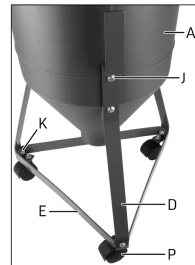

FIGURE 2.
1. Connect each leg (D) to the plastic hopper bucket (A) with two lock screws (J) and secure on the inside of the bucket with two lock nuts (K). See figure 2.
2. Attach the leg connecting braces (E) to each leg (D) and secure with the lock screws (J) and the M6 lock nuts (K). See figure 2.
3. Attach the plastic caster (P) to each of the three legs and secure with the caster nut. See figure 2.